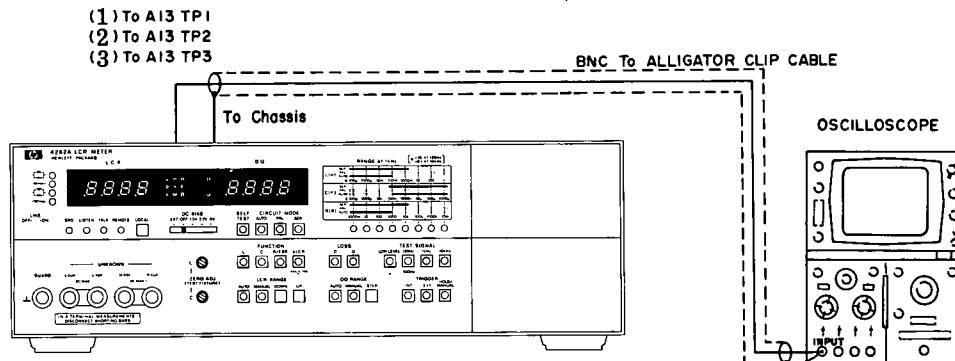

Figure 5-5. A13 Board Offset Adjustment.
(1) OFS - 1 ADJUSTMENT.
- a. Connect BNC to dual alligator clip cable between oscilloscope and 4262A test point A13TP1 and 4262A chassis (see Figure 5-5).
- a. Connect BNC to dual alligator clip cable (or 1:1 oscilloscope probe) between oscilloscope and 4262A test point A13TP2 and 4262A chassis (see Figure 5-5).